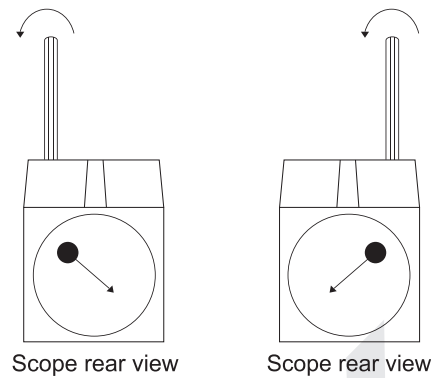

Figure 23: Adjusting the Scope
7. Adjust the scope by using a 1.5 mm Allen wrench to turn the adjustment screws. Adjust the position of the scope aiming dot, as shown in Figure 23.